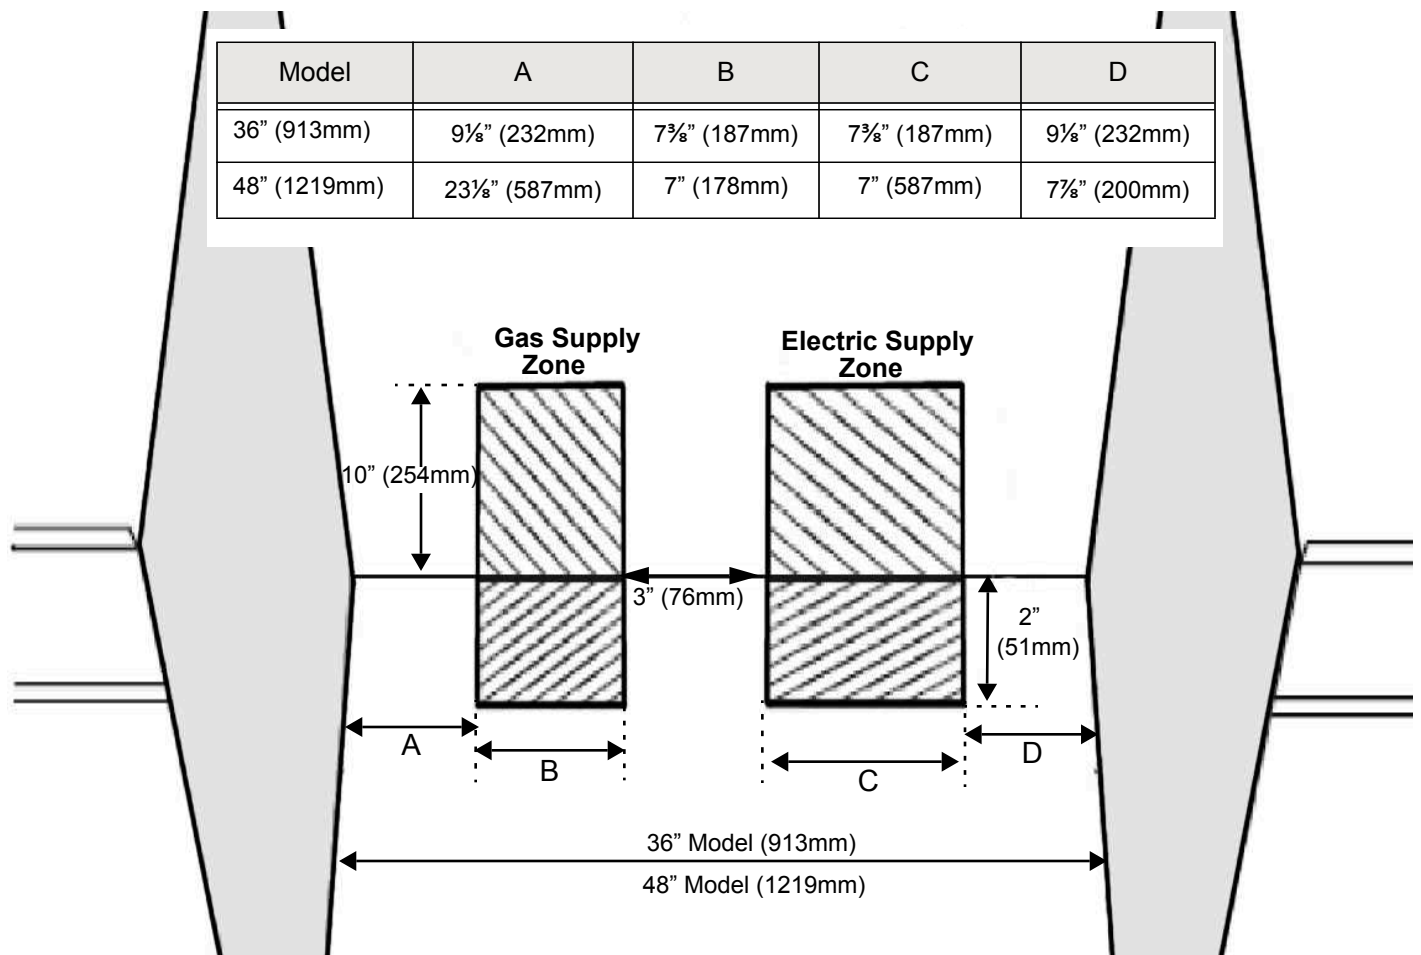

FIGURE 4: GAS & ELECTRICAL SUPPLY LOCATIONS
- The gas and electrical supply should be within the zones shown in *Figure 4 on page 7*.